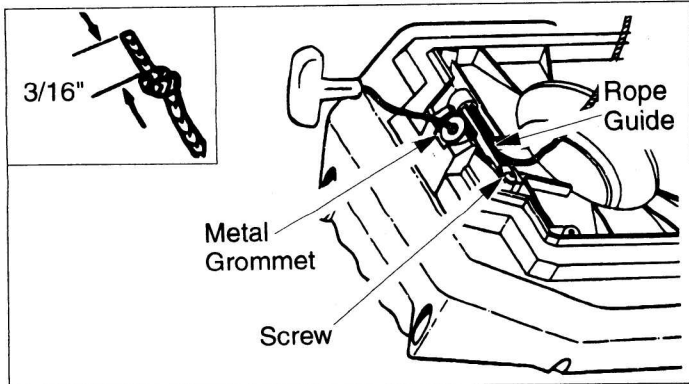

Figure 23
- Guide rope inside the pulley, then through pulley hole. Figure 23.